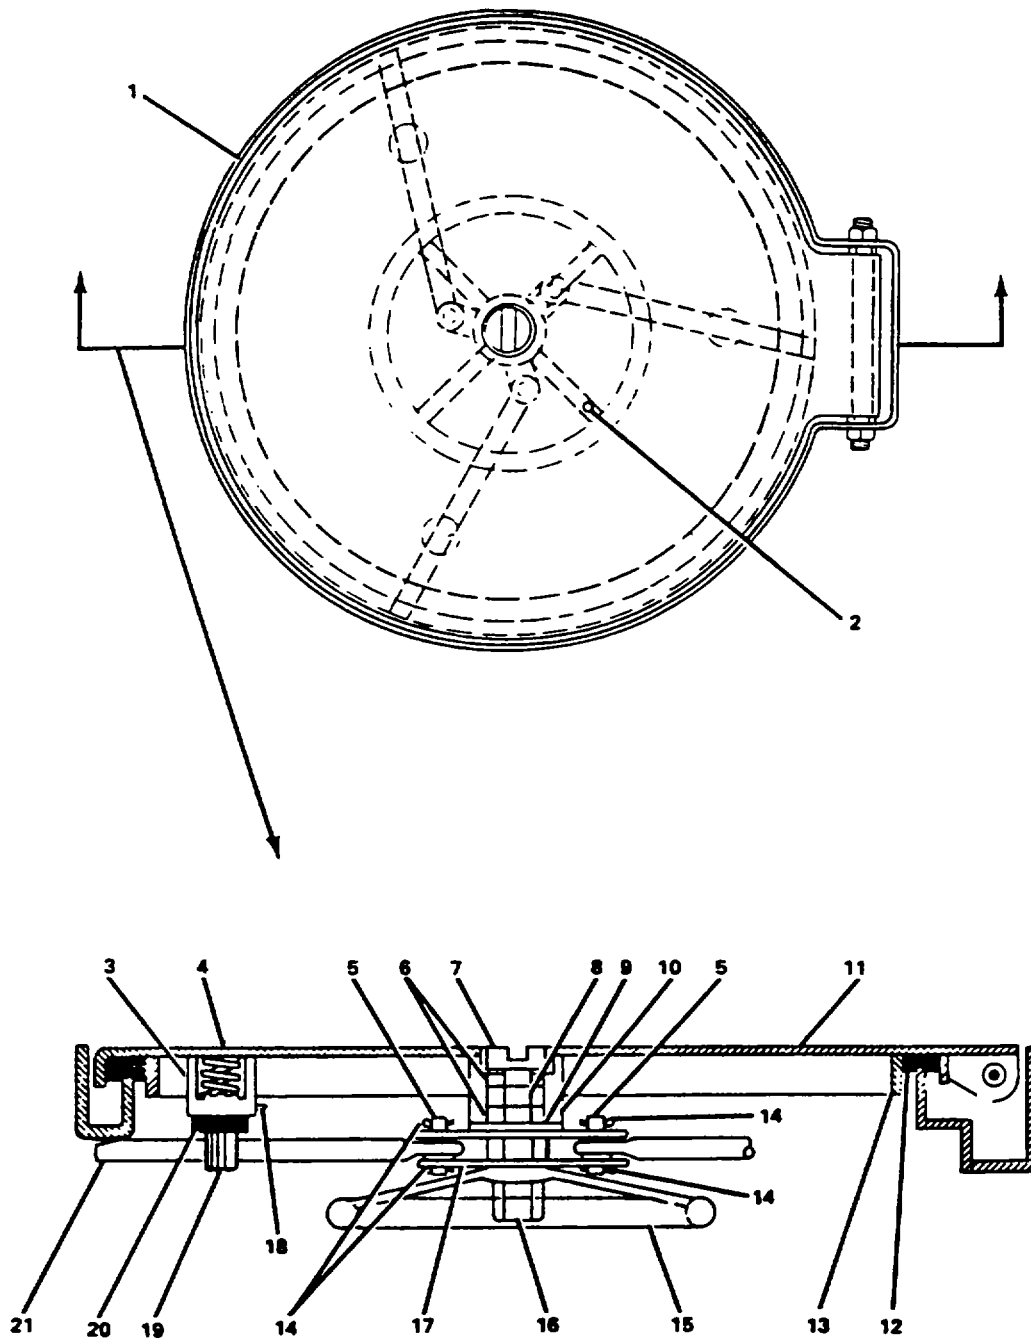

Figure 2-40. Repair Watertight Scuttle. Quick Action (Flush).
- a. Remove hex nuts (16, Figure 2-40) and handwheel (15) from scuttle (1).
Repair at this level of maintenance is by replacement of gasket (12, Figure 2-40), delrin bushings (6), preformed packing (8), hex steel bushings (20), and helical compression springs (4).